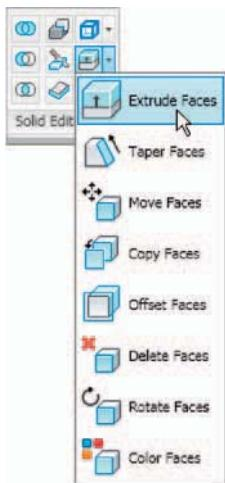

Fig. 18.4 The Extrude Faces tool from the Home/Solid Editing panel
6. Click the **Extrude Faces** tool icon in the **Home/Solid Editing** panel (Fig. 18.4). The command line shows:
2. Click on the **Move Faces** tool in the **Home/Solid Editing** panel (see Fig. 18.4, page 366). The command line shows:
2. Click on the **Offset Faces** tool icon in the **Home/Solid Editing** toolbar (see Fig. 18.4, page 366). The command line shows: